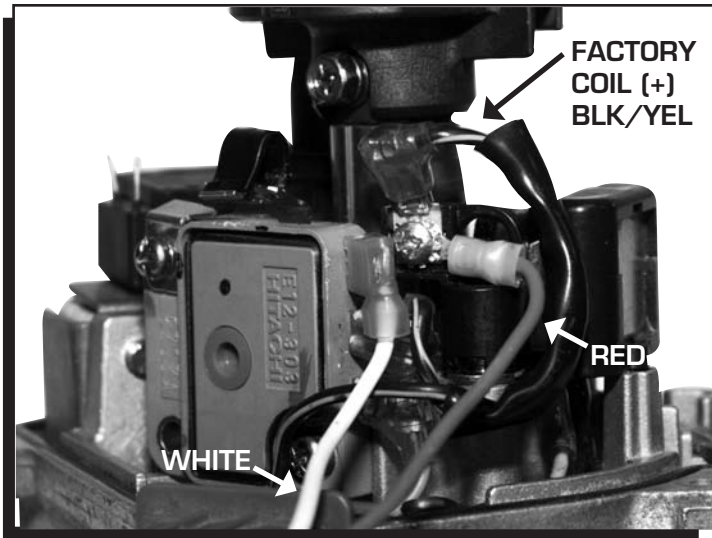

Figure 2 Wire Positions.
5. Install the supplied male spade connector, and supplied RED wire to the Wire Retainer using the supplied (.375") Phillips screw and internal tooth lock washer (Figure 2).
6. Connect the factory coil positive (+) wire (BLK/YEL) to the male spade connector on the wire retainer (Figure 2).
7. Connect the supplied White wire to the igniter where the factory coil negative (-) wire was connected (Figure 2, 3).
8. Install the supplied Black and supplied Orange wires onto the coil. The Orange wire installs on the positive (+) side of the coil, and the Black installs on the negative (-) side of the coil (Figure 2).